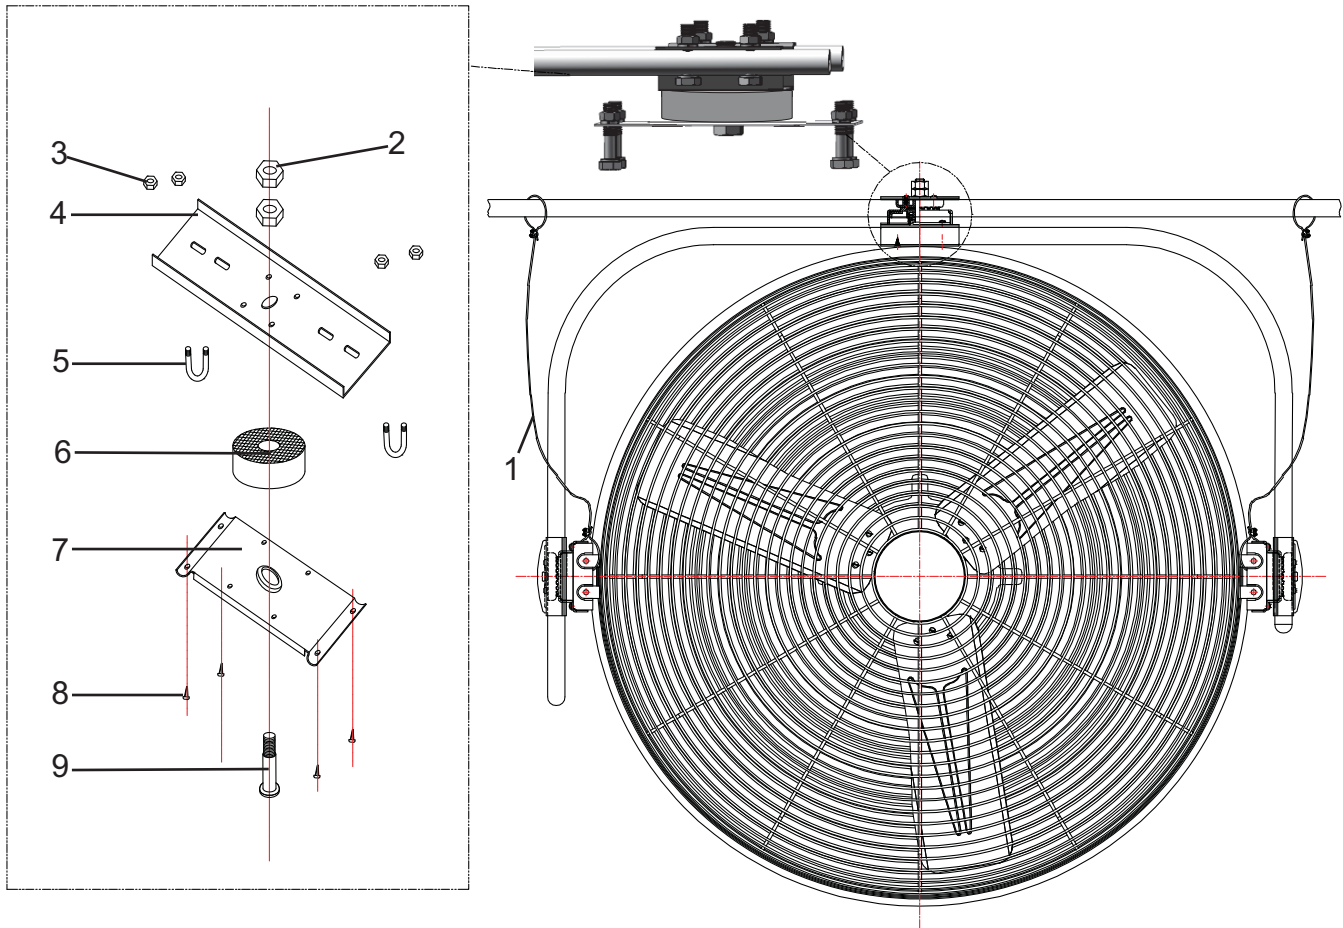

figure 5: Exploded view of ceiling mount kit
2. Assemble and attach Ceiling Mount Assembly as shown in Figure 5 on page 5.